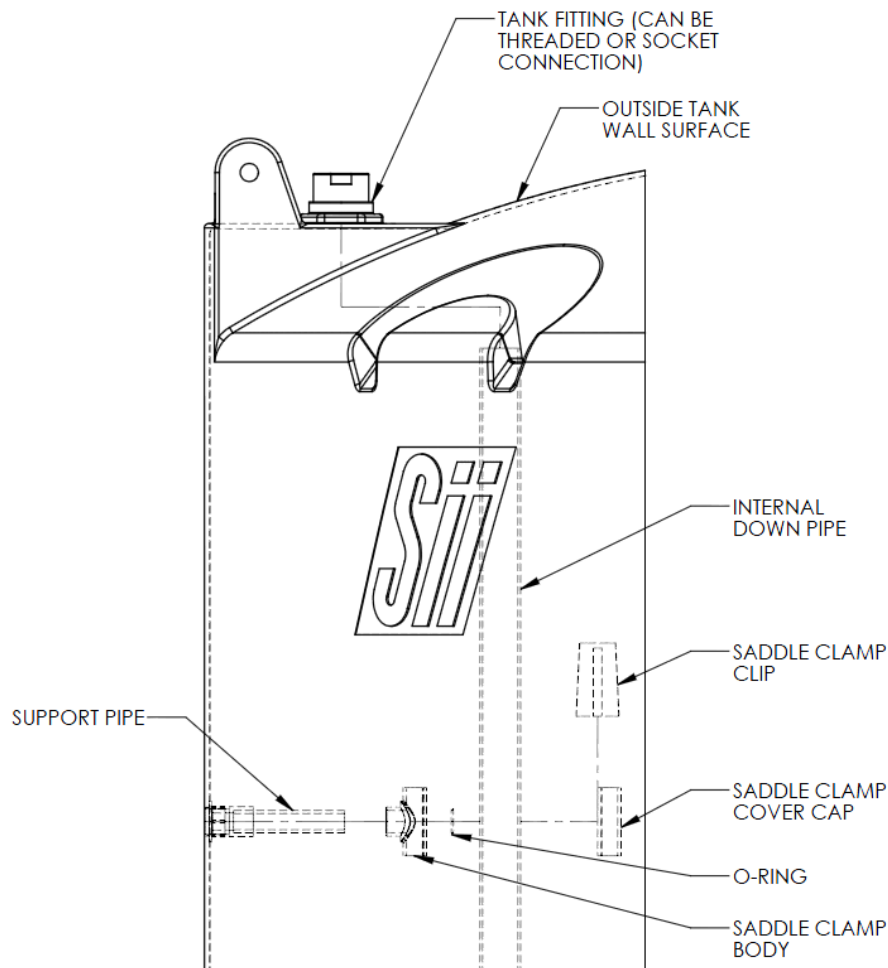

Figure 7.3
7.4.2 Assemble the piping loosely using Figure 7.3, the guidelines detailed below, and the customer approved tank drawing to ensure all parts are present and cut to meet the customer's requirements. As soon as all parts have been checked, assemble the parts with solvent weld cement and/or threaded connections as shown in Figure 7.3.
7.4.3 Assemble and install support structures as shown in Figure 7.3 (without the saddle clamp cover caps and clips). Since the support fitting does not penetrate the tank wall, the threaded connection to the support fitting does not need pipe sealant. Make sure the support clamp orientation is correct (with the small width of the wedge toward the top of the tank). Assemble and install piping as per the customer approved drawing. As piping is being installed on the tank, lock it in place with the saddle clamp cover caps and clips provided (make sure that the sealing o-ring is in the proper position as the pipe is positioned into the saddle support body). Seal all threaded pipe connections (except the support fittings) with Teflon pipe sealant and connect solvent weld sockets with solvent cement.